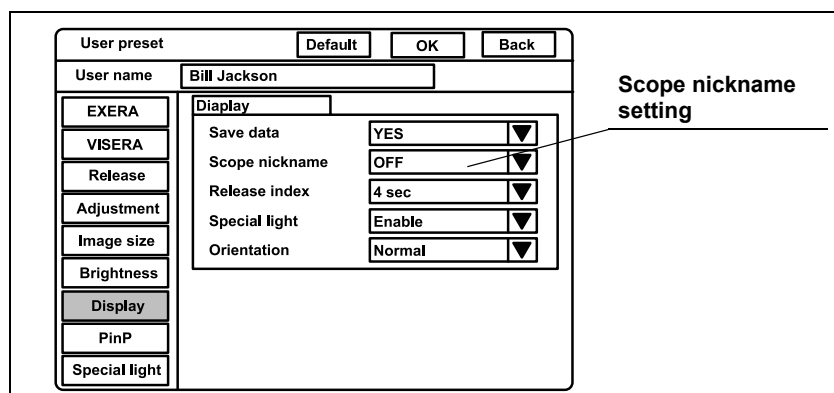

Figure 9.33
1. Click "▼" of "Scope nickname" (see Figure 9.33). The settings "Enable" and "OFF" appear in the pull-down menu.